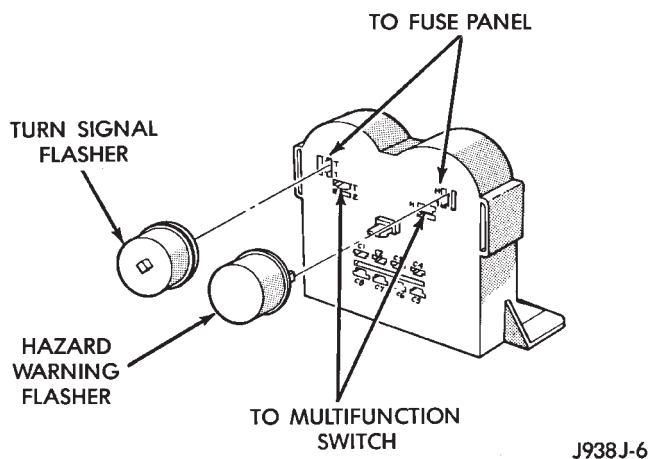

Fig. 3 Flasher Wiring
(1) Turn ignition key to RUN position. Place turn stalk in up or down position. Observe the turn indicator arrow on instrument cluster. If the arrow stays lit, check for burned out exterior turn signal bulb. Replace bulb as required. Turn indicator should now flash, if not go to next step.
(2) Open front passenger door. Locate the fuse panel at the passenger end of the instrument panel. Inspect 20 amp Turn fuse in cavity #16. Replace if necessary.
(3) Locate turn signal flasher in convenience center and remove it. There should be battery voltage at the fuse side of the flasher (top terminal) (Fig. 3). If not, repair open circuit in wiring between turn fuse and flasher.
(4) Replace flasher with a known good flasher. The lamps should flash. If not, install original flasher, put electrical tape over flashers and go to next step.
(5) Locate multi-function as described in Multi-Function Switch Testing Procedures. Measure voltage at the multi-function switch connector cavity #17. Meter should read battery voltage. If OK, replace multi-function switch assembly. If not, repair open circuit in wiring between turn flasher and multi-function switch.
(1) Open front passenger door. Locate the fuse panel at the passenger end of the instrument panel. Inspect the 20 amp Haz. Lamps fuse #3. Replace if necessary.
(2) Measure voltage at the fuse side of the flasher (top terminal) (Fig. 3). Meter should read battery voltage. If not, repair open circuit in wiring between fuse and Hazard flasher.
(3) Replace Hazard flasher with known good flasher. Lamps should flash. If not, install original flasher and go to next step.
(4) Locate multi-function as described in Multi-Function Switch Testing Procedures. Measure voltage at the multi-function switch connector cavity #13. Meter should read battery voltage. If OK, replace multi-function switch. If not, repair open circuit in wiring between hazard flasher and multi-function switch connector cavity #13.